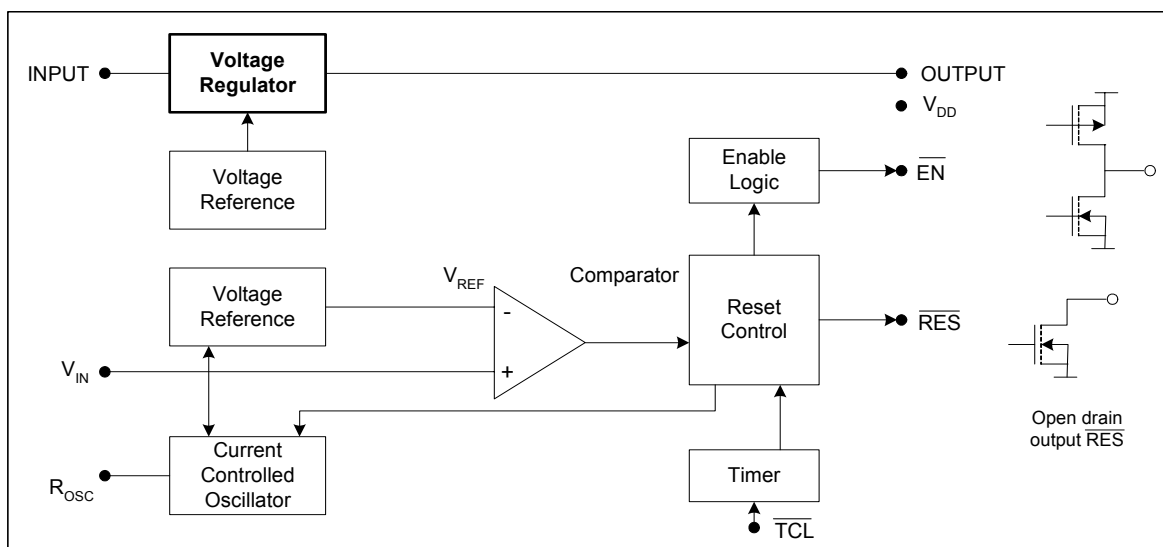

Fig. 3
- Note 4:** the comparator and the voltage regulator have separate voltage references (see "Block Diagram" Fig. 3).